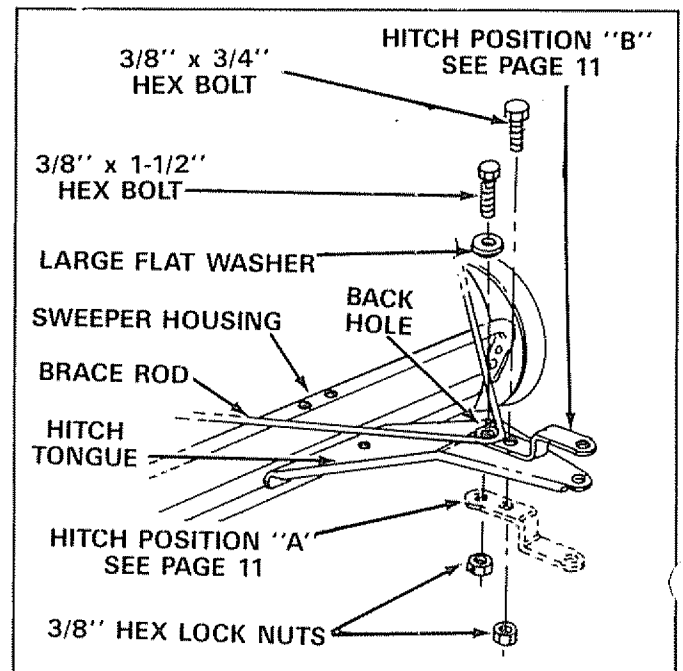

FIGURE 5
Before assembling the hitch bracket to the hitch tongue, refer to figure 5 and page 11 to determine which position is required for your towing vehicle.
3. Assemble the hitch bracket to the hitch tongue using 3/8" x 3/4" hex bolt (in front hole) and 3/8" hex lock nut. See figure 5. Assemble the brace rod over the back hole in hitch bracket and secure with large flat washer, 3/8" x 1-1/2" hex bolt and 3/8" hex lock nut. See figure 5. **Do not tighten at this time.**